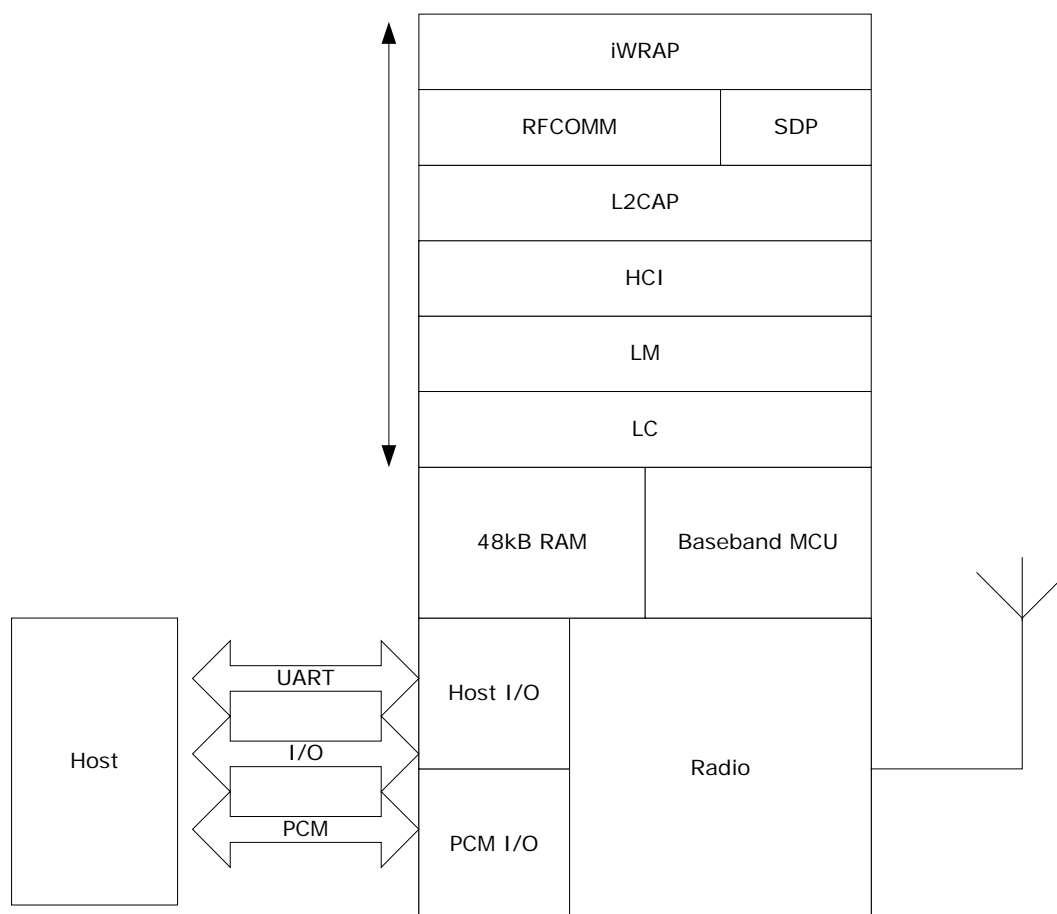

Figure 34: iWRAP Stack
In Figure 34 above, the iWRAP software solution is described. In this version of the stack firmware shown, no host processor is required to run the Bluetooth protocol stack. All software layers, including application software, run on the internal RISC processor in a protected user software execution environment known as a Virtual Machine (VM).